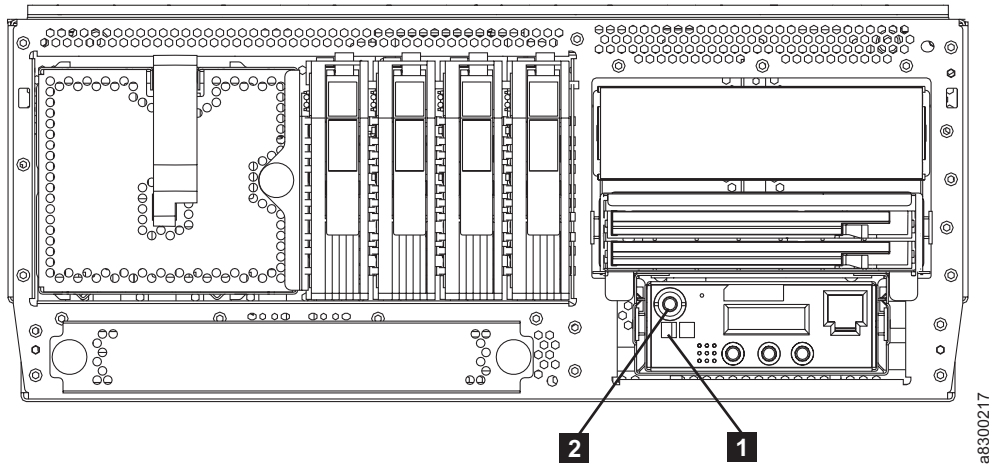

Figure 14. Rear View of TS1120 Tape Controller
2. The tape controller performs a self-test when power is applied to the frame or rack. When the self-test completes, the tape controller's power LED (**1** in Figure 14 on page 34) will flash, indicating that the tape controller is in standby mode.
3. When the tape controller's power LED (**1** in Figure 14 on page 34) flashes, press the Power ON/OFF button (**2** in Figure 14 on page 34).
2. Press and hold down the Power ON/OFF button (**2** in Figure 14) for approximately 5 seconds. You will see the number in the upper right corner of the Operator Panel decrement from 4 to 1 to no number displayed. At that point, release the Power ON/OFF button.
4. The TS1120 Tape Controller is powered down to standby mode when the green LED (**1** in Figure 14) on the Operator Panel blinks.